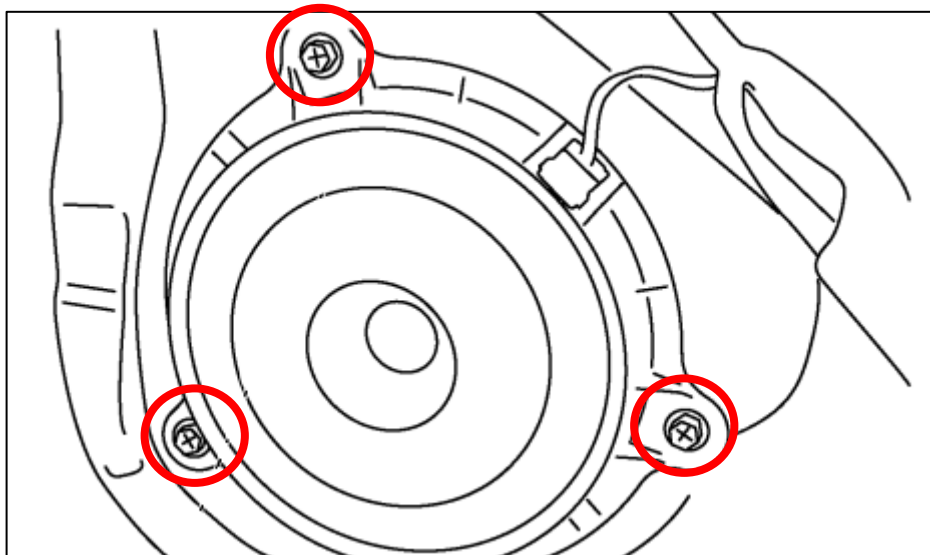

Figure 32
12. Remove the (3) three bolts securing the Speaker to the Door Panel. *Figure 32.*